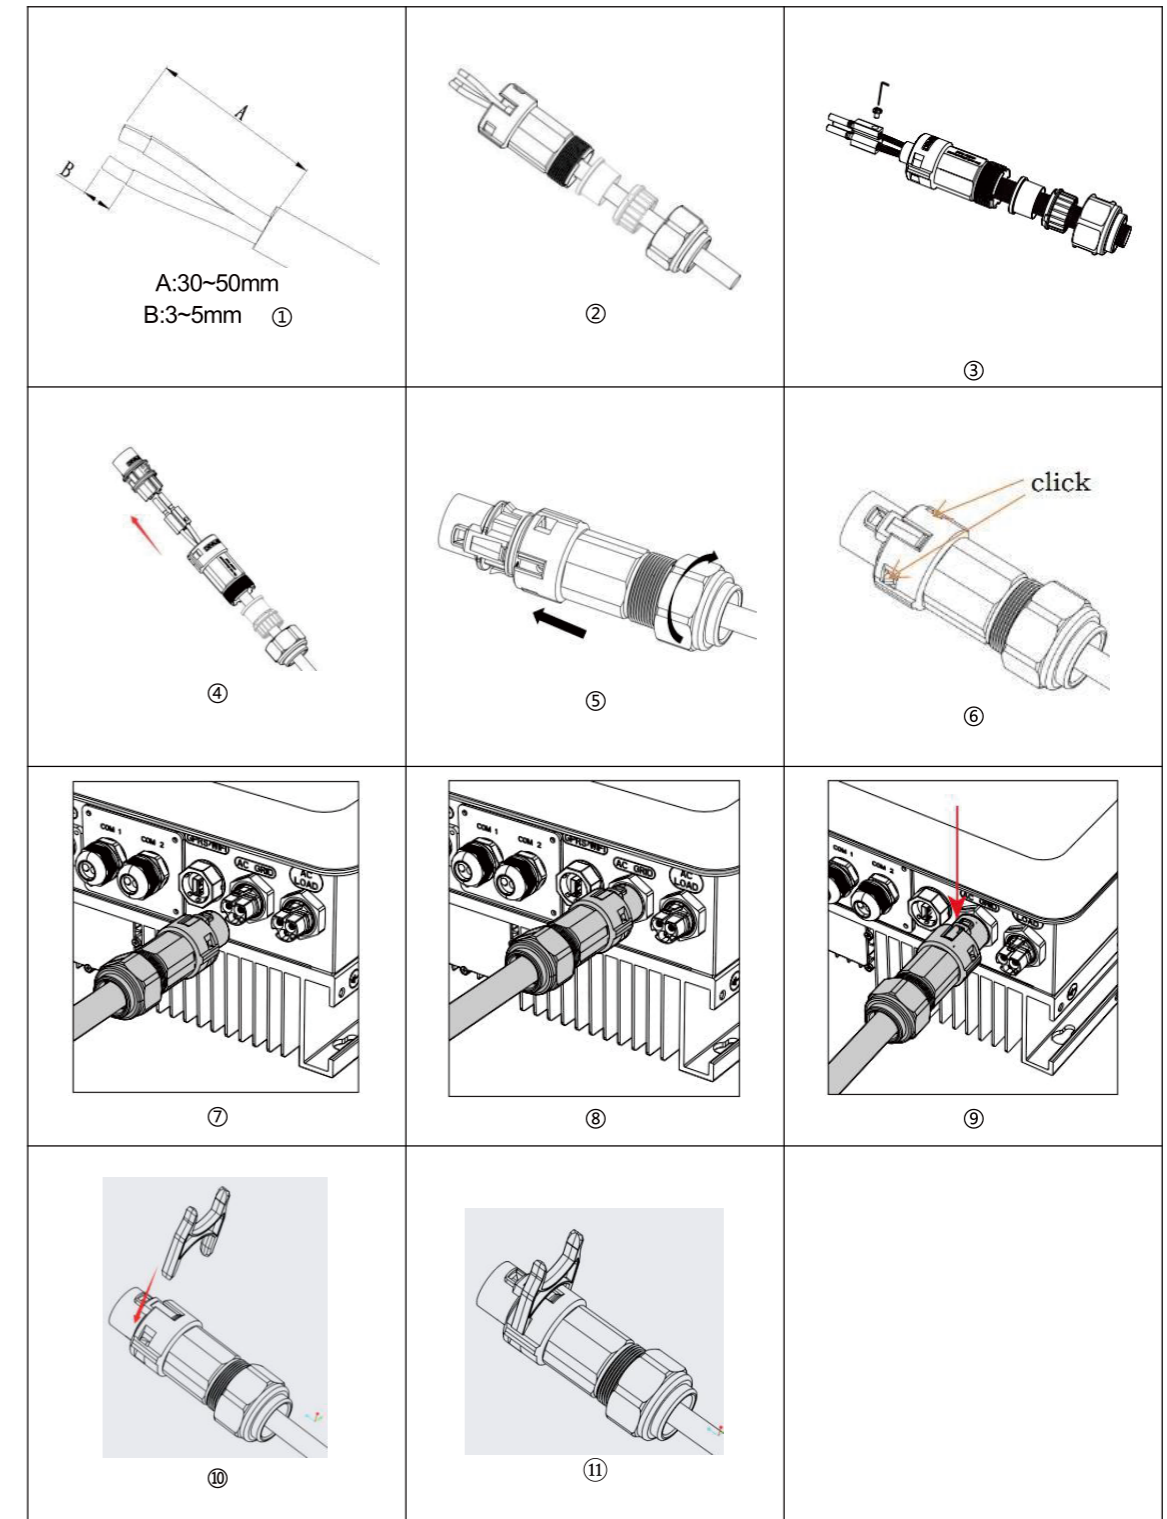

Figure 13: Connection of AC output cable
- Step 1: Select the appropriate type and specification of cable according to Table 4-3, and then strip the cable; the specific stripping length shall refer to Figure 13 ①; A: 30~50mm B: 3~5mm
- Step 2: Disassemble the AC terminal as shown in Figure 13 ②, and pass the stripped cable through the waterproof locking nut;
- Step 3: Lock the cable into the locking hole on the terminal as indicated, and fastened with a hexagon socket screwdriver, as shown in Figure 13 ③④;
- Step 4: Insert the output terminal, and when the “click” sound is heard, tighten the waterproof nut clockwise, as shown in Figure 13 ⑤⑥, to ensure that the cable is securely connected;
If it is required to remove the terminal from the equipment, it can be pulled out by a tool inserted in the direction as indicated by the arrow. The same tool can be used to remove the terminal, as shown in Figure 13 ⑩⑪.